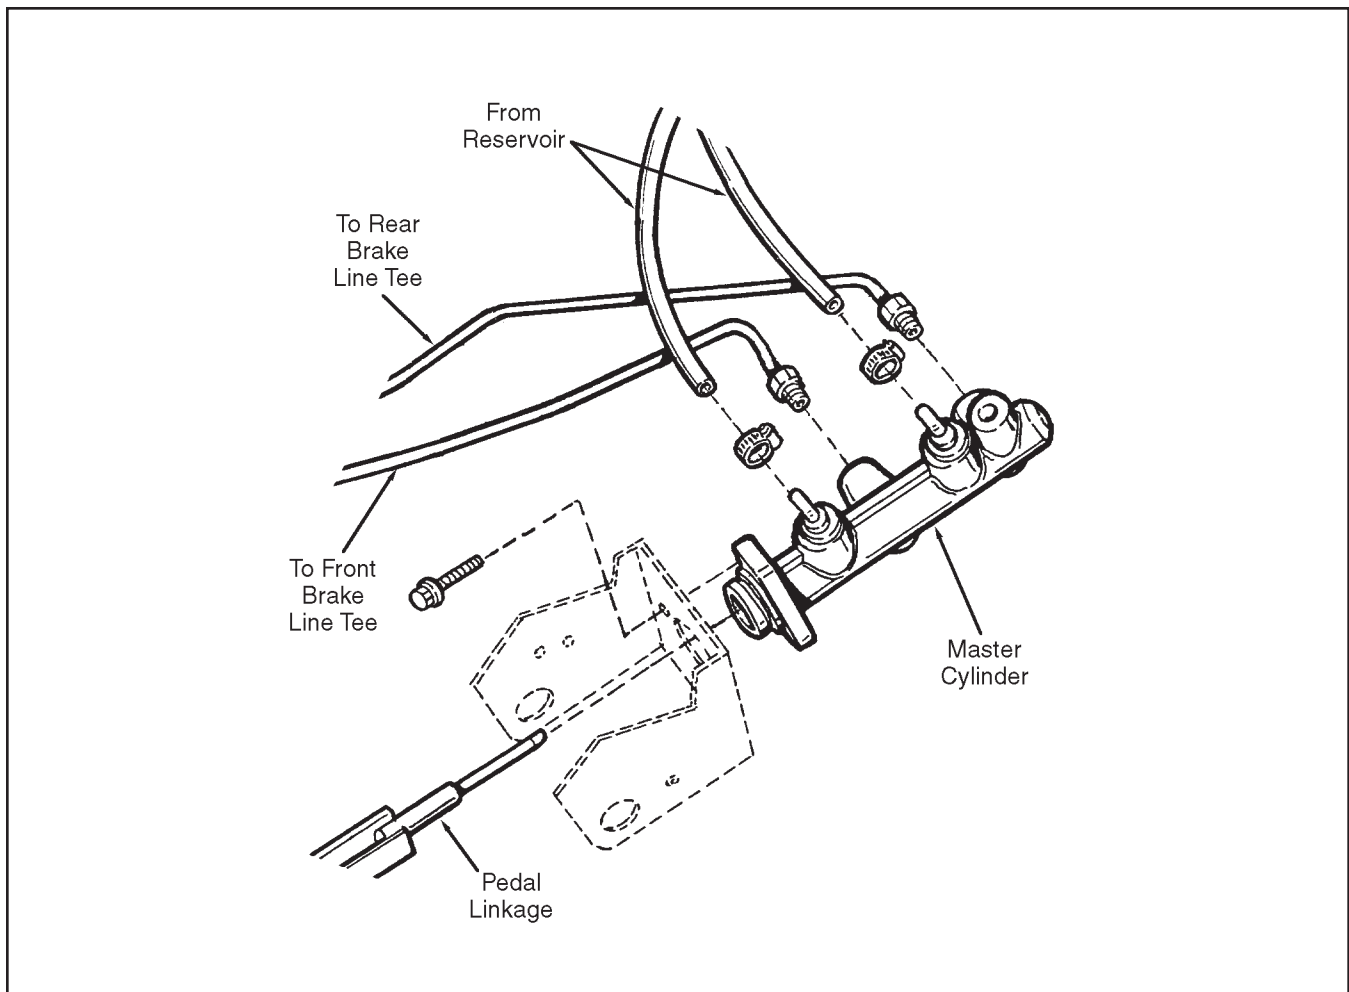

Figure 5E-1. Master Cylinder Removal and Replacement
4. Reconnect brake lines as shown in Figure 5E-2, fill the reservoir and bleed the brake system as described in Section 5D.